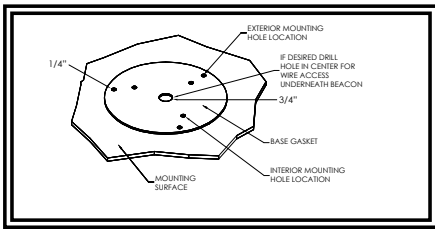
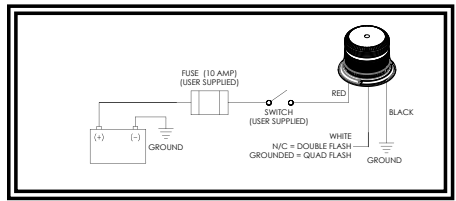

Figure 1
Figure 3
**Permanent Mounting:** Select the desired location on a flat surface for the strobe beacon to be mounted. The visibility of the strobe flash and ease of wiring access should be taken into consideration in the selection of the mounting location. Using the base gasket as a template, mark the three mounting hole locations (see Figure 1). Drill the holes using the correct drill size to match the hardware. A fourth hole may be drilled for wire access as shown in Figure 1, or the wires may be routed through the slot in the base for external access. Connect the power wires as shown in the wiring section (see Figure 3).
The wiring for the strobe is as shown in Figure 3 below. All wiring should be a minimum of 18AWG. The positive line must have a 10 amp fuse. A switch may be used to control the on/off function. **Note:** Power must be shut off when changing flash modes.